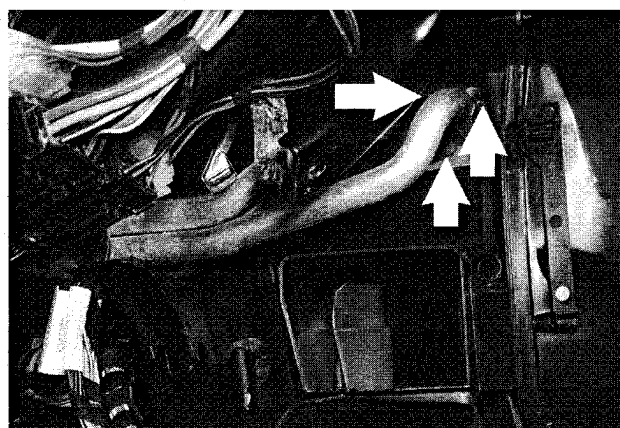

Fig. 16. Bolts at 3-way coolant flange under driver's side of dash (arrows).
5. Working under driver side of dash, remove coolant flange from heater core. See Fig. 16.